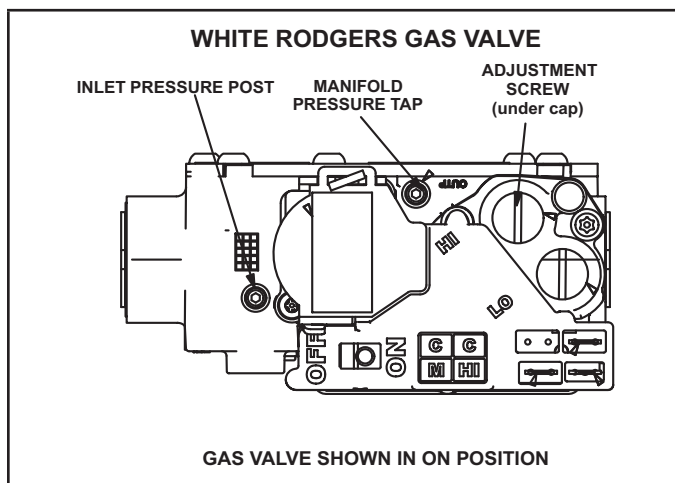
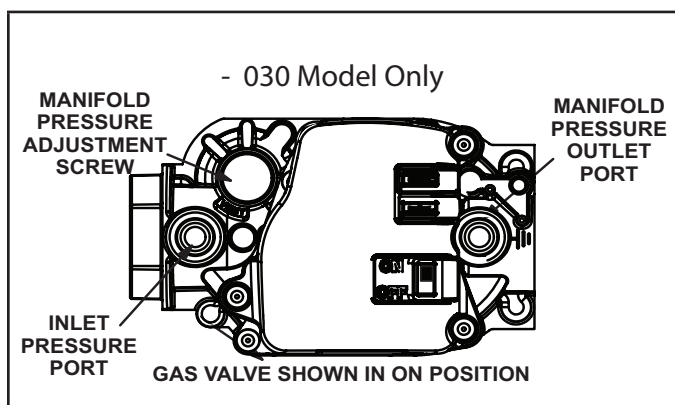

FIGURE 38
FIGURE 39
Gas Valve Operation (FIGURE 38 and FIGURE 30)
- 6 - Move switch on gas valve to OFF. Do not force. See FIGURE 38 and FIGURE 39.
- 8 - Move switch on gas valve to ON. Do not force. See FIGURE 38 and FIGURE 39.
- 4 - If necessary, make adjustments. FIGURE 38 and FIGURE 39 show location of adjustment screw.